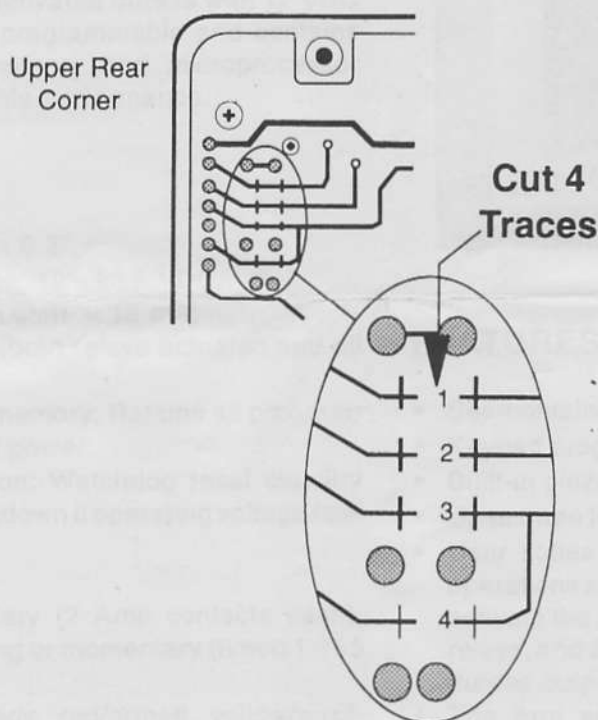

Figure 5 Cutting Traces for Positive Trigger
2. Observe the back of the control station circuit board. There are four traces in the upper left hand corner (just below the large phillips head screw). Each trace is marked with a pair of verticle hatch marks (see Figure 5).